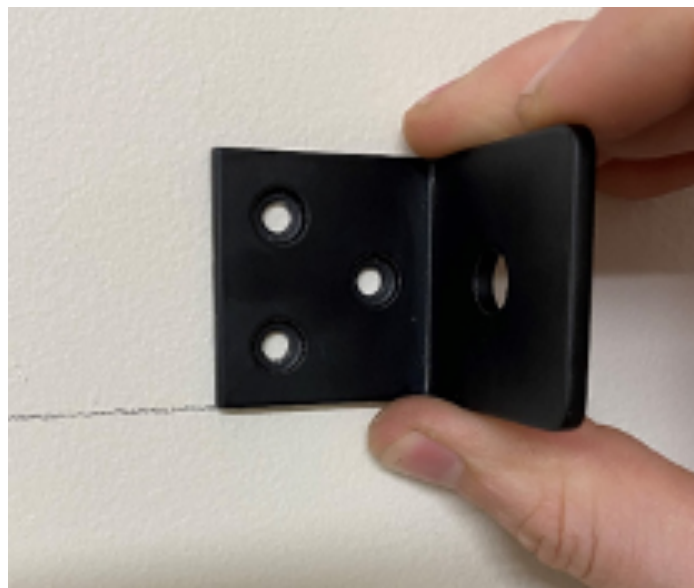

Figure 3 (right side)
8. Align the angle mounting bracket as shown in **Figure 3** to the line $\frac{1}{8}$ " from the edge of the rail and screw to the wall using the same method as steps 5-6. The leg with the drywall screws should be covered by the rail after it is installed.